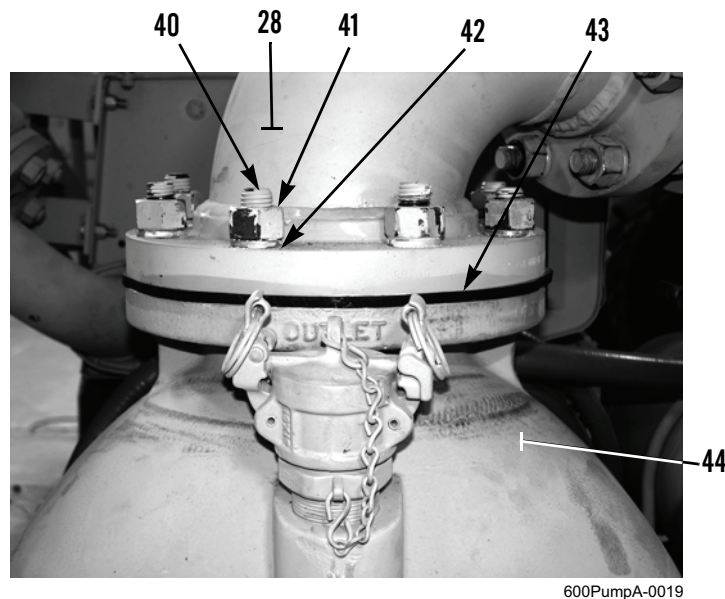

Figure 9. Pump Casing and Discharge Elbow.
24. Remove eight nuts (Figure 9, Item 41) and lockwashers (Figure 9, Item 42) from studs (Figure 9, Item 40). Discard lockwashers.
25. Remove 90-degree discharge elbow (Figure 9, Item 28) and gasket (Figure 9, Item 43) from pump casing (Figure 9, Item 44). Discard gasket.
1. Install new gasket (Figure 9, Item 43) on pump casing (Figure 9, Item 44).
2. Position 90-degree discharge elbow (Figure 9, Item 28) on pump casing (Figure 9, Item 44), with alignment mark on discharge elbow in line with alignment mark on pump casing.
3. Install eight new lockwashers (Figure 9, Item 42) and nuts (Figure 9, Item 41) on studs (Figure 9, Item 40) at 90-degree discharge elbow (Figure 9, Item 28) and pump casing (Figure 9, Item 44). Tighten nuts alternately and evenly to 75 lb-ft (102 Nm).